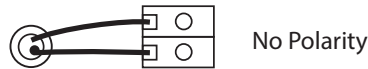

Figure 9
- The relay has both Normally Open (NO) and Normally Closed (NC) contacts available. The relay output is available on the NO/COM/NC terminal. Make connections before applying power as shown in Figure 9.